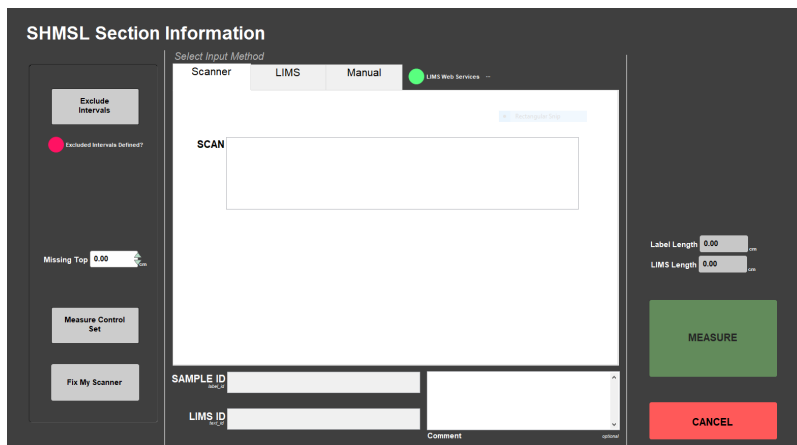

Figure 7. SHMSL Section Information Screen.
3. Click **START**. The **Section Information** screen is displayed (Figure 7).